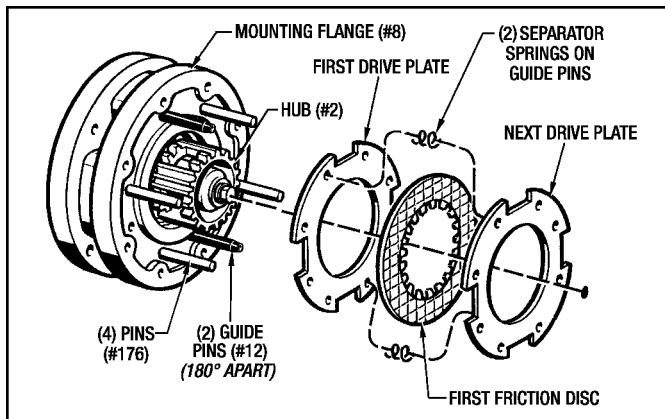

Figure 3.5 - Installing The MSB9 & 10 Brake Stack (#12)
- If needed, install the (2) Guide Pins (#12) 180° apart into the Mounting Flange (#8) as shown in *Figure 3.5*. Use **Blue Loctite #242**.